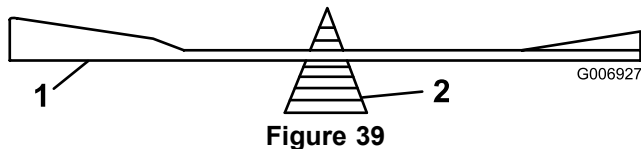

Figure 39
2. Check the balance of each blade by putting it on a blade balancer (Figure 39). If the blade stays in a horizontal position, the blade is balanced and can be used. If the blade is not balanced, file some metal off the back side of the blade. Repeat this step until each blade is balanced.